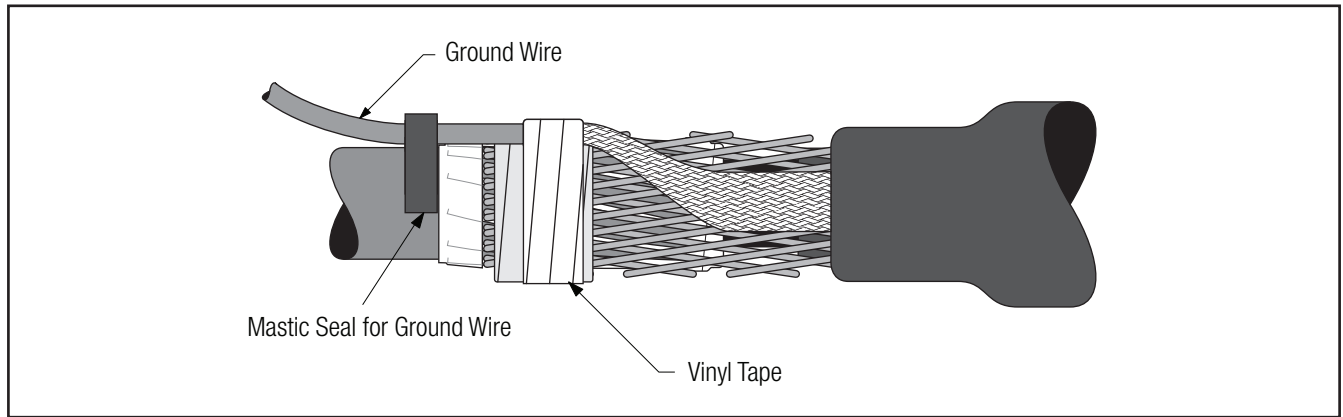

Figure 25
6.4 Wrap two half-lapped layers of vinyl tape over the ground connector (*Figure 25*).